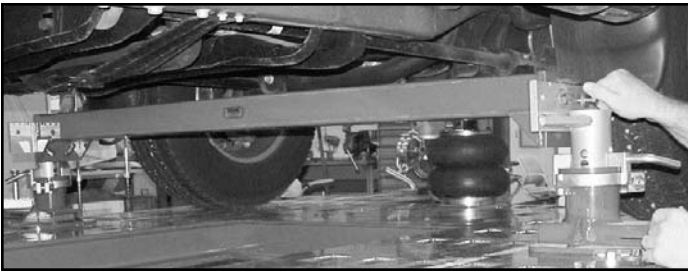

Figure 1
2. Install anchoring stands at corners of center section and secure the crossbar of the F.A.S.T. Anchoring System to the stands. (See Figure 1.) Position the bar directly below the boxed rail anchoring locations.